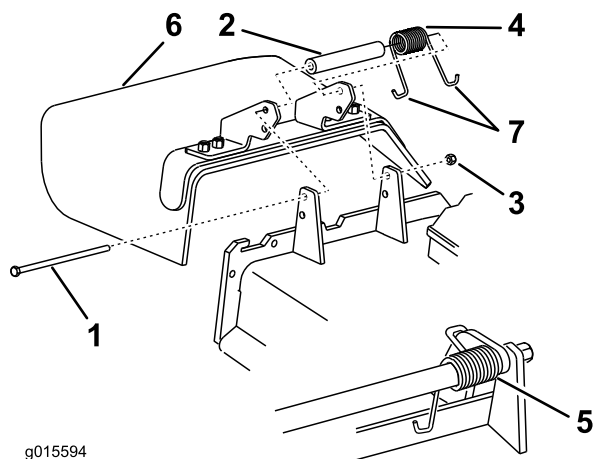

Figure 23
4. Remove the locknut, bolt, spring, and spacer holding the deflector to the pivot brackets (Figure 23).
5. Remove the grass deflector (Figure 23).